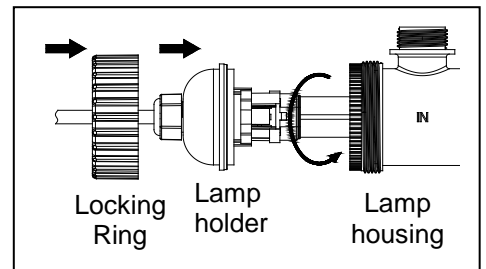

Fig. 10
4. Reinstall the lamp holder and locking ring. Fig. 10